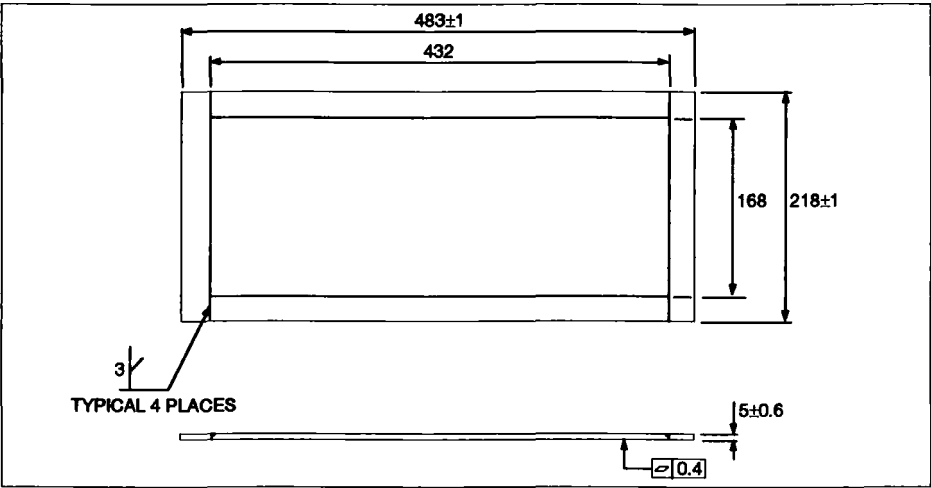

Figure 2.3 Clamp Frame
2. If the panel is thin or of low-strength construction and liable to be distorted by the weight of the unit(s), reinforce it with a clamp frame (Part BE 082097). After inserting the T1000, slide the frame over the rear of the unit from the back of the panel. Figure 2.3 shows the clamp frame.